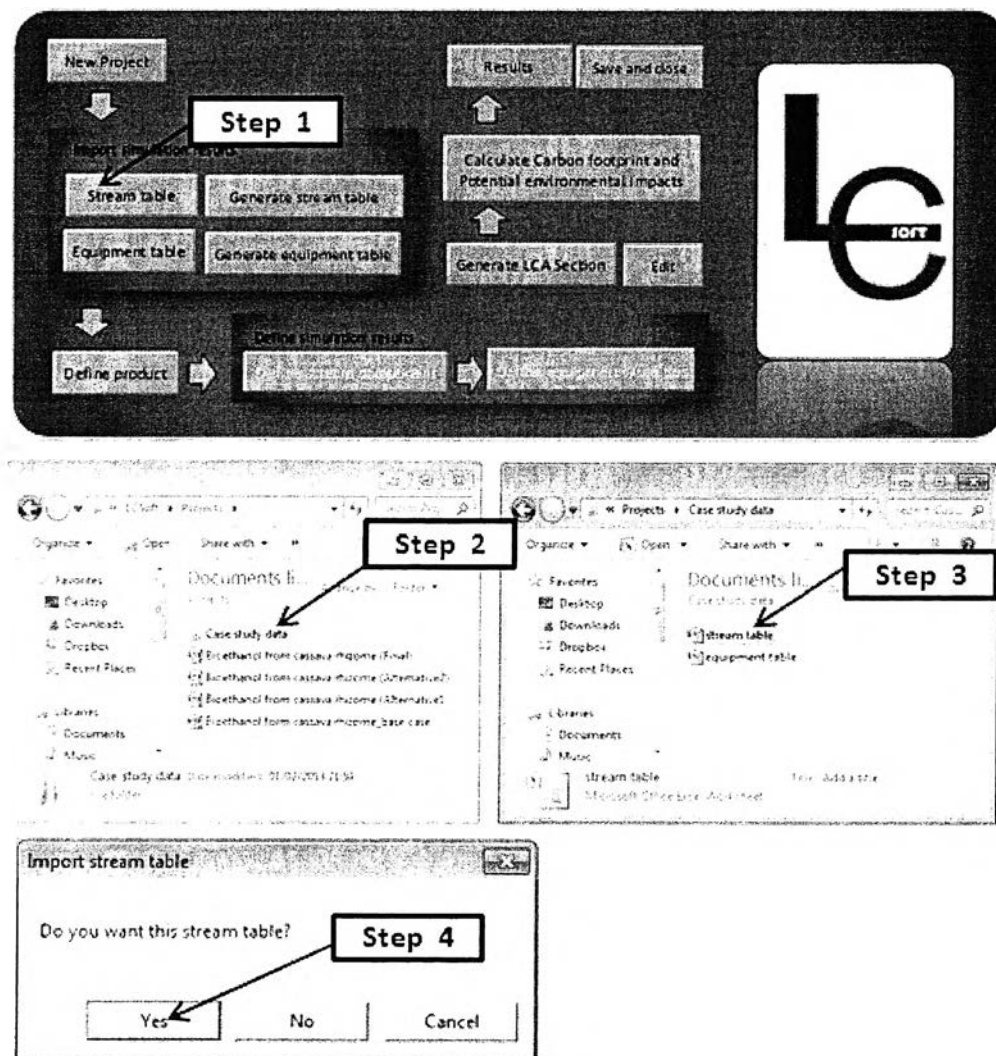

Figure A.9 Steps to import stream table
Step 1: Click “Import stream table” button as shown in Figure A.9.